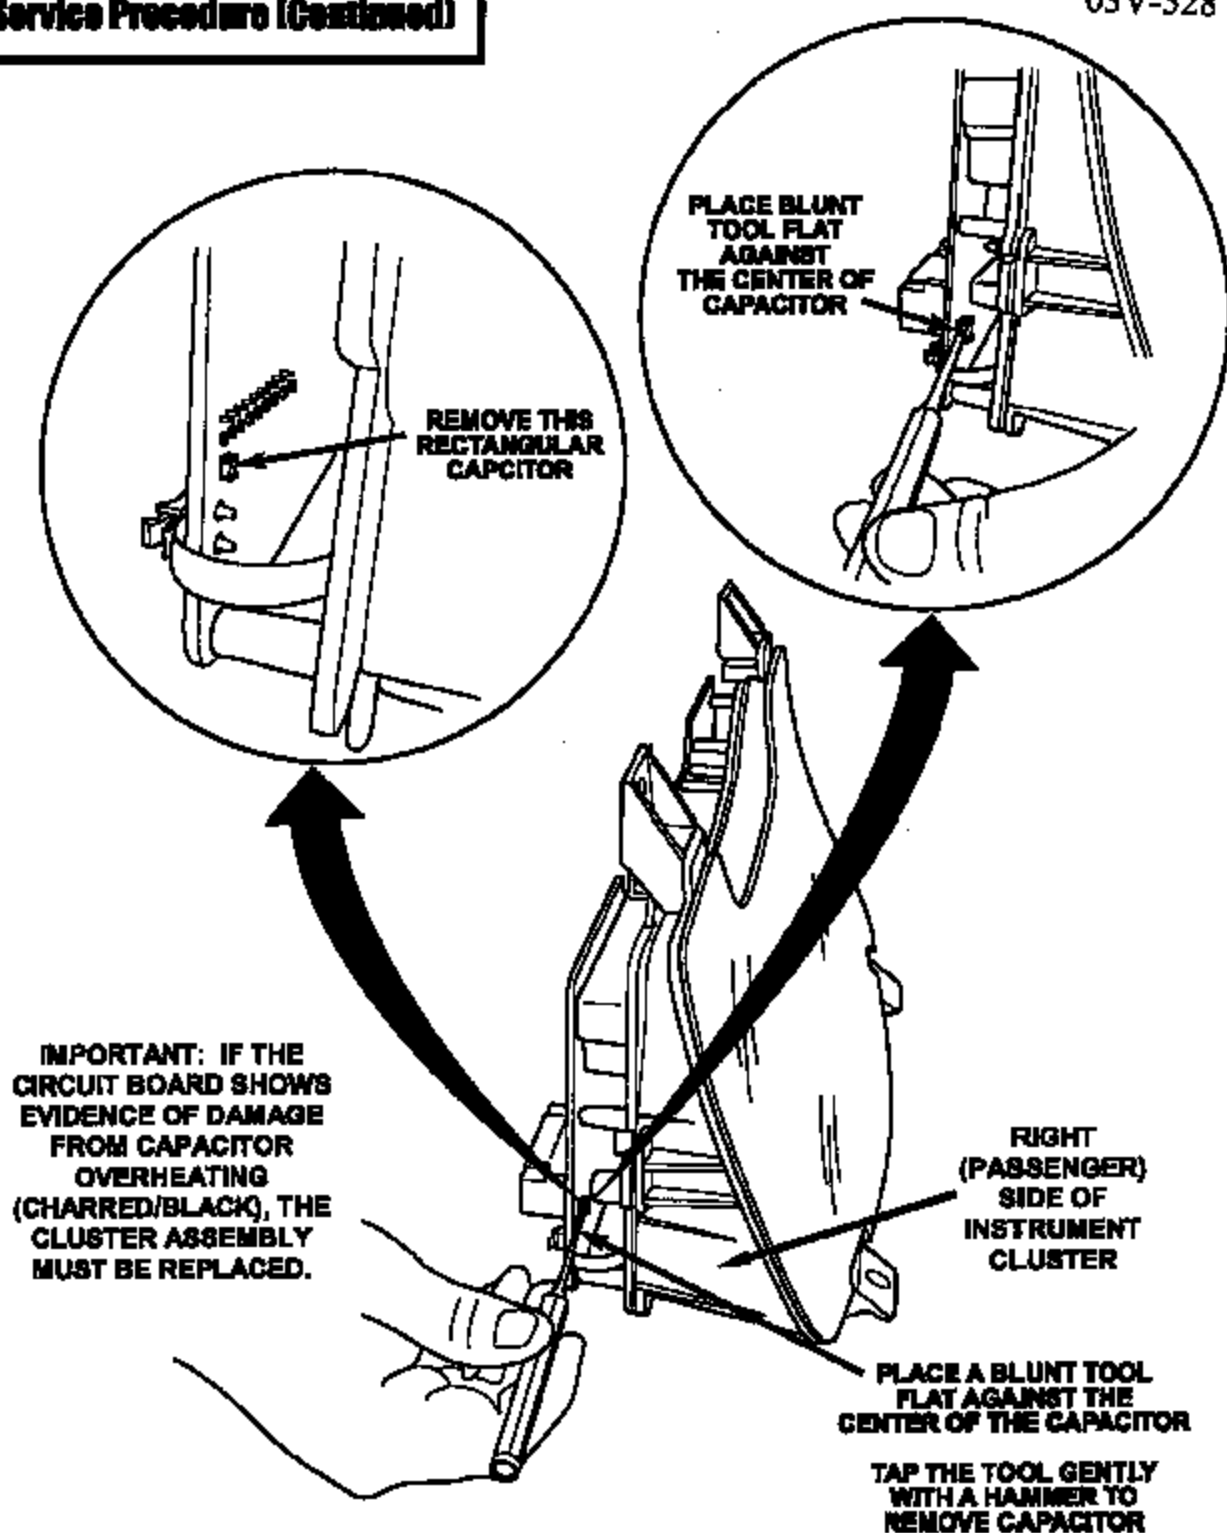

Figure 8
17. Place a **blunt tool** such as a 5/32" pin punch against the circuit board capacitor on the right (passenger) end of the circuit board (Figure 8). Do NOT use a tool that is wider than the overall width of the capacitor.